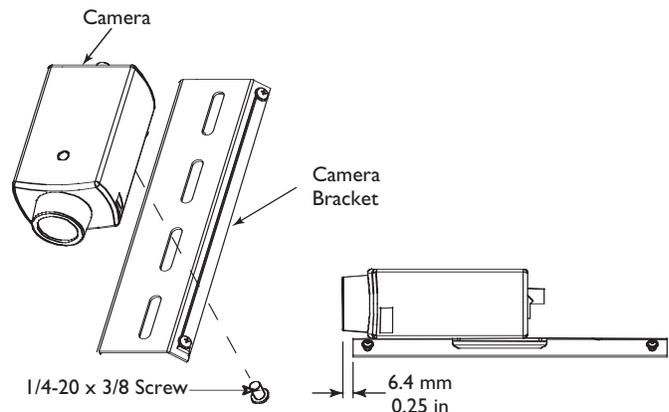

Figure 4: Attaching the Camera
- 3b. Use the 1/4-20 x 3/8-inch screw to mount the camera to the camera bracket. The lens should extend approximately 6 mm (0.25-inch) from the front of the camera bracket. See **Figure 4**.